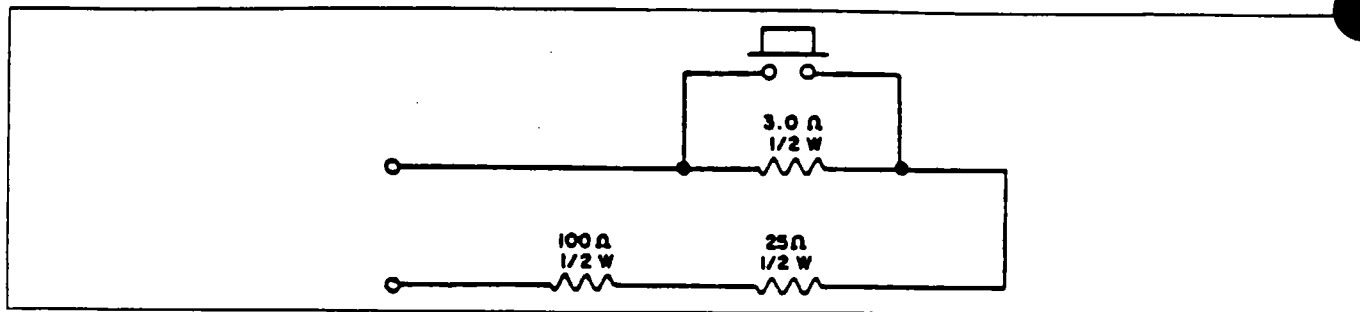

Figure 39-2a. Schematic - Test Box
4. Place a resistive load of 128 ohms across pin A and B of electrical harness connectors E116 and E217. Use a locally fabricated test box. (Refer to Figure 39-2a.)